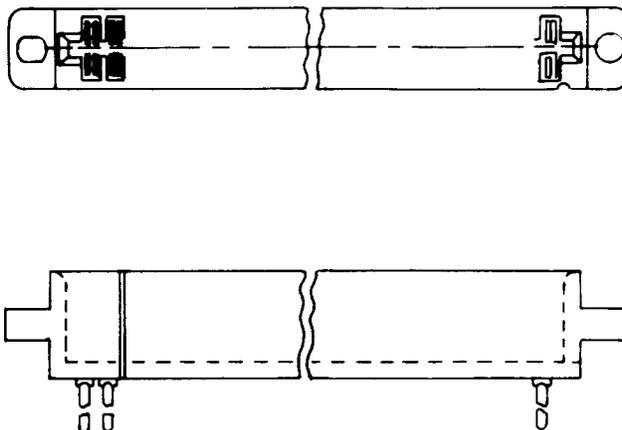

Fig. 2—941A, B, or C Connector
**2.02 941A, B, and C:** The 941A, B, and C connectors (Fig. 2) consist of a molded housing of insulating material containing spring terminals. One end of each terminal is contained within the housing and is equipped with twin metal contacts for connecting to a printed wiring board terminal. The ends are